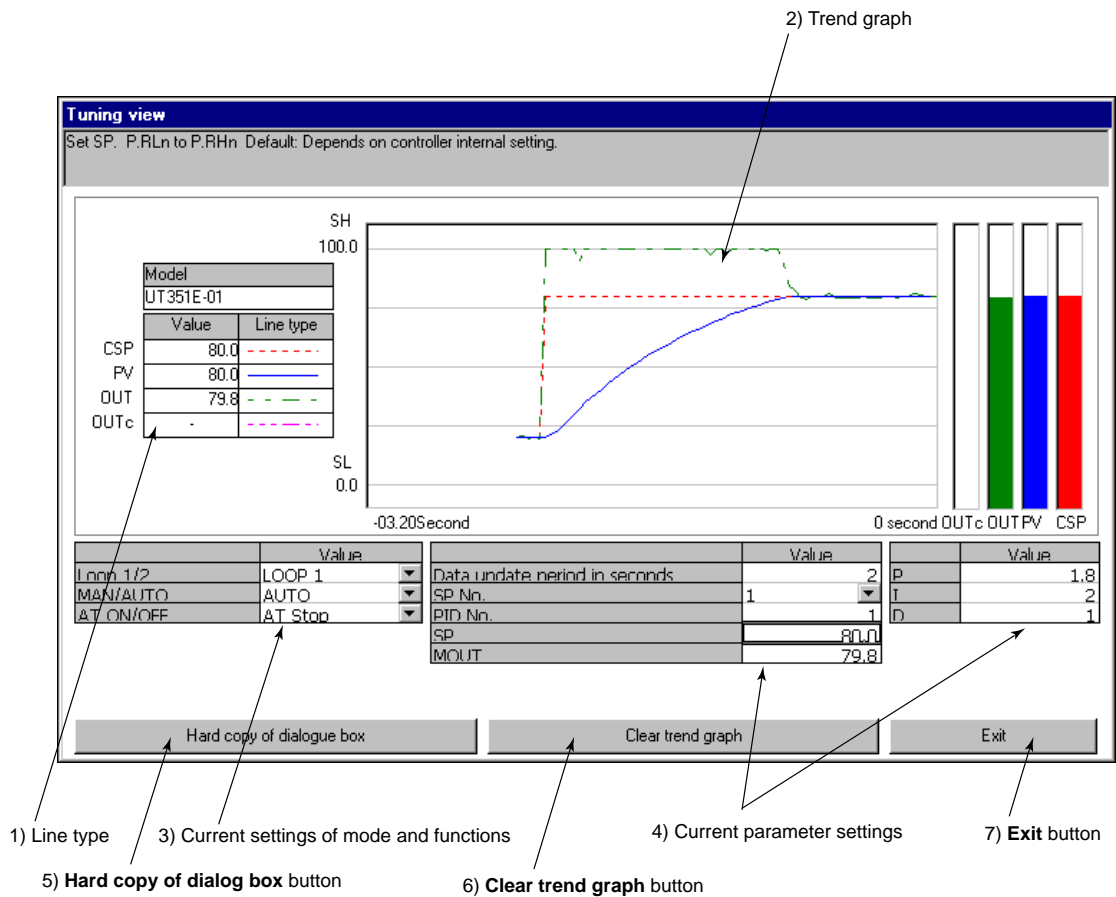

Figure 8.1.2 Tuning View Dialog Box (UT750)
- (2) Click **Front communication**.
- (3) From the **Serial port** list, select the communication port of the personal computer (COM1 to COM16).
- (4) Connect the controller to the personal computer, and then click **Execute**.
- (5) The Tuning View dialog box (Figure 8.1.2) appears.
The Tuning View dialog box (Figure 8.1.2) appears.
Figure 8.1.2 for details of the Tuning View dialog box.
- (1) Set the controller in AUTO mode (for cascade control, set the secondary loop to CAS mode).
- (2) In the **AT ON/OFF** text box of the Tuning View dialog box (Figure 8.1.2), set the auto-tuning (AT1 to AT9) you wish to execute.
- (3) When auto-tuning is complete, "0" is displayed in the **AT ON/OFF** text box.
- (1) Set the controller in MAN mode.
- (2) In the **V.AT ON/OFF** text box of the Tuning View dialog box (Figure 8.1.2), select "ON."
- (3) When the tuning is complete, "V.AT Stop" is displayed in the **V.AT ON/OFF** text box.